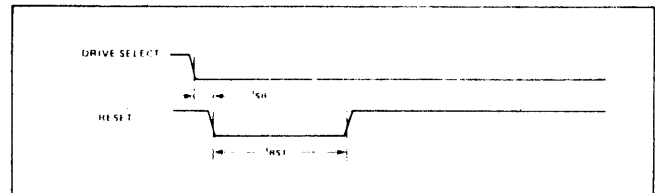

Figure 10.5-3 Reset Timing
3. Reset Timing Reset timing is shown in Figure 10.5-3 The AC characteristics are listed in Table 10.5-3